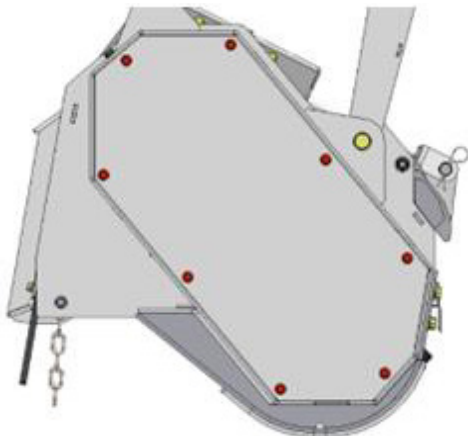

Figure 19
7. Close the access panel and fasten with the eight (8) bolts. See Figure 19.